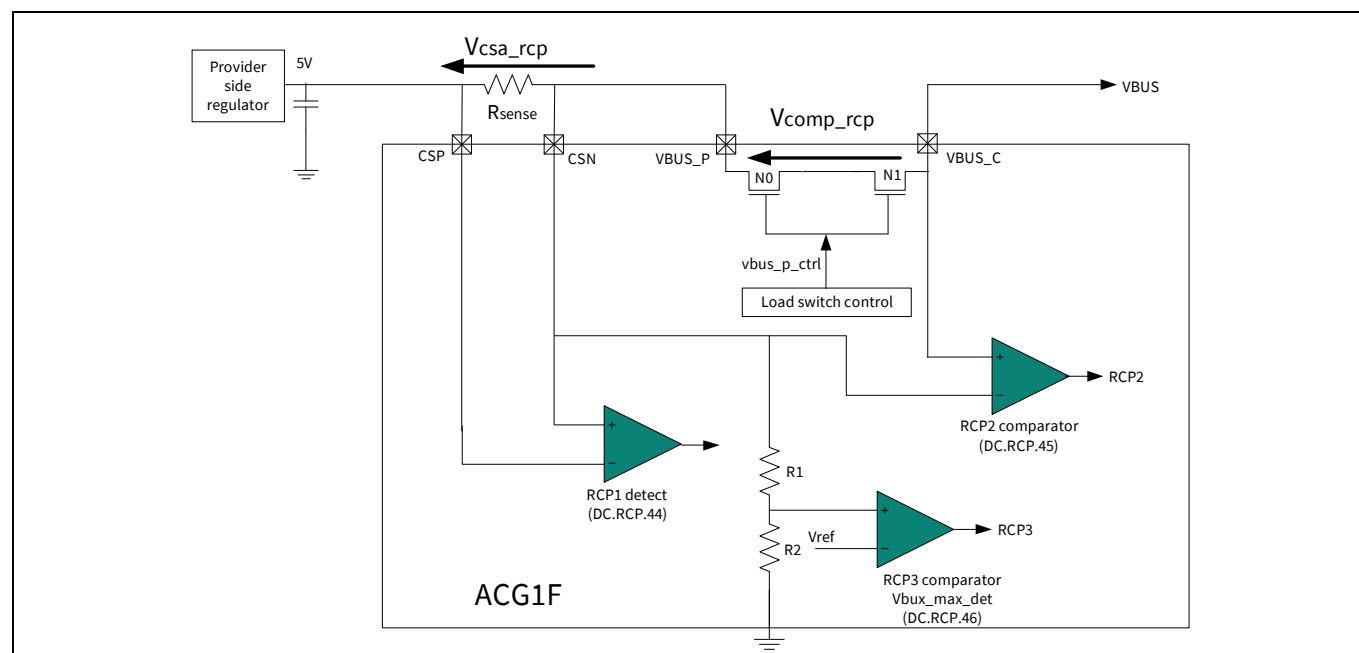

Figure 1 **RCP mechanism**
ACG1F controller supports RCP in 40-QFN package. ACG1F integrates the RCP circuitry that has the capability of sensing reverse current that lasts for more than 10 μ s and protects the system by shutting down the Gate automatically upon detection of such events. ACG1F provides RCP circuitry that can detect reverse current flow from connector VBUS_C to provider VBUS_P. The RCP event is recognized whenever VBUS_C > VBUS_P while provider FET is ON, causing current to flow from connector VBUS to provider VBUS. After recognizing the RCP event, the provider FET is shut down thus isolating the provider and connector VBUS. ACG1F has three distinct mechanisms to detect the reverse current as shown in **Figure 1**.
- Mechanism 1: A comparator senses the voltage drop across external Rsense through pins CSP and CSN. This comparator signals an RCP event whenever $CSN > CSP$ by the V_{csa_rcp} voltage given in Table 27. The output of this comparator RCP1 is shown in Figure 1.
- Mechanism 2: A comparator senses the voltage drop across provider FET through CSN and VBUS pin of ACG1F. This comparator signals an RCP event whenever $VBUS > CSN$ by the V_{comp_rcp} voltage given in Table 27. The output of this comparator RCP2 is shown in Figure 1.
- Mechanism 3: A comparator senses the 33.33% voltage of the CSN pin and compares it against $V_{ref} = 1.79\text{ V}$ for 5-V provider VBUS application. This comparator signals an RCP event whenever CSN voltage goes above $V_{bus_max_det}$ voltage given in Table 27 for a 5 V application. The output of this comparator RCP3 is shown in Figure 1. Note that V_{ref} is programmable and the voltage divider has an option to use 25% or 33.33% value which is configurable only through firmware. To change the V_{ref} value to 25%, contact local Infineon Sales Representative.